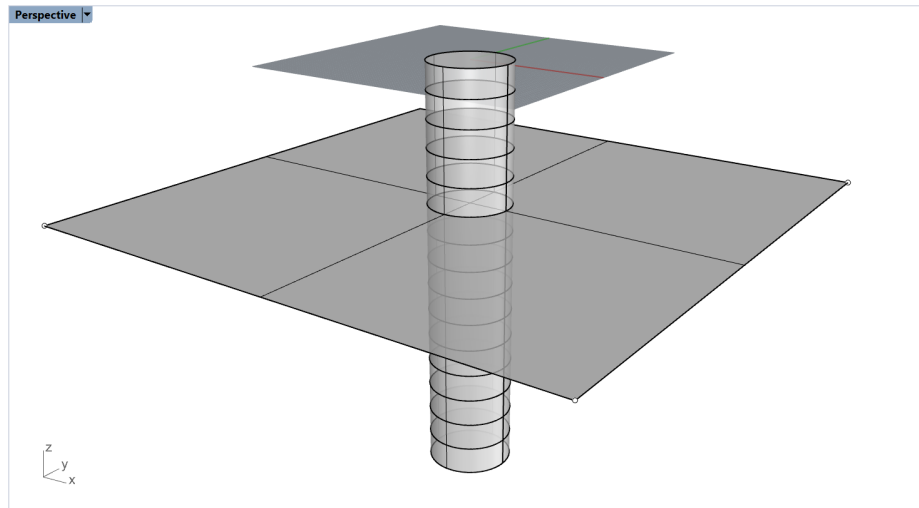

Figure 12: Construction of a shaft and a plane separating two layers of soil
9. Connect all points by a horizontal plane by typing the **\_Plane** command and start dragging a plane from one of the “side” points (the first or third in the list above). The objects should look as shown in Figure 12.